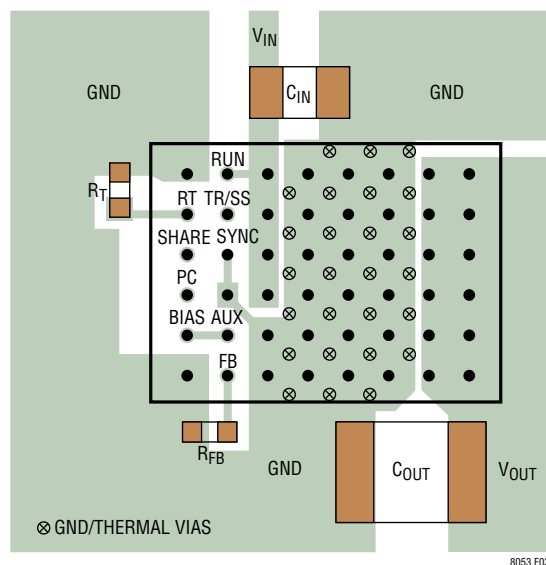

Figure 3. Layout Showing Suggested External Components, GND Plane and Thermal Vias
operation with a haphazard or poor layout. See Figure 3 for a suggested layout. Ensure that the grounding and heat sinking are acceptable.
6. Use vias to connect the GND copper area to the board's internal ground planes. Liberally distribute these GND vias to provide both a good ground connection and thermal path to the internal planes of the printed circuit board. Pay attention to the location and density of the thermal vias in Figure 3. The LTM8053 can benefit from the heat-sinking afforded by vias that connect to internal GND planes at these locations, due to their proximity to internal power handling components. The optimum number of thermal vias depends upon the printed circuit board design. For example, a board might use very small via holes. It should employ more thermal vias than a board that uses larger holes.